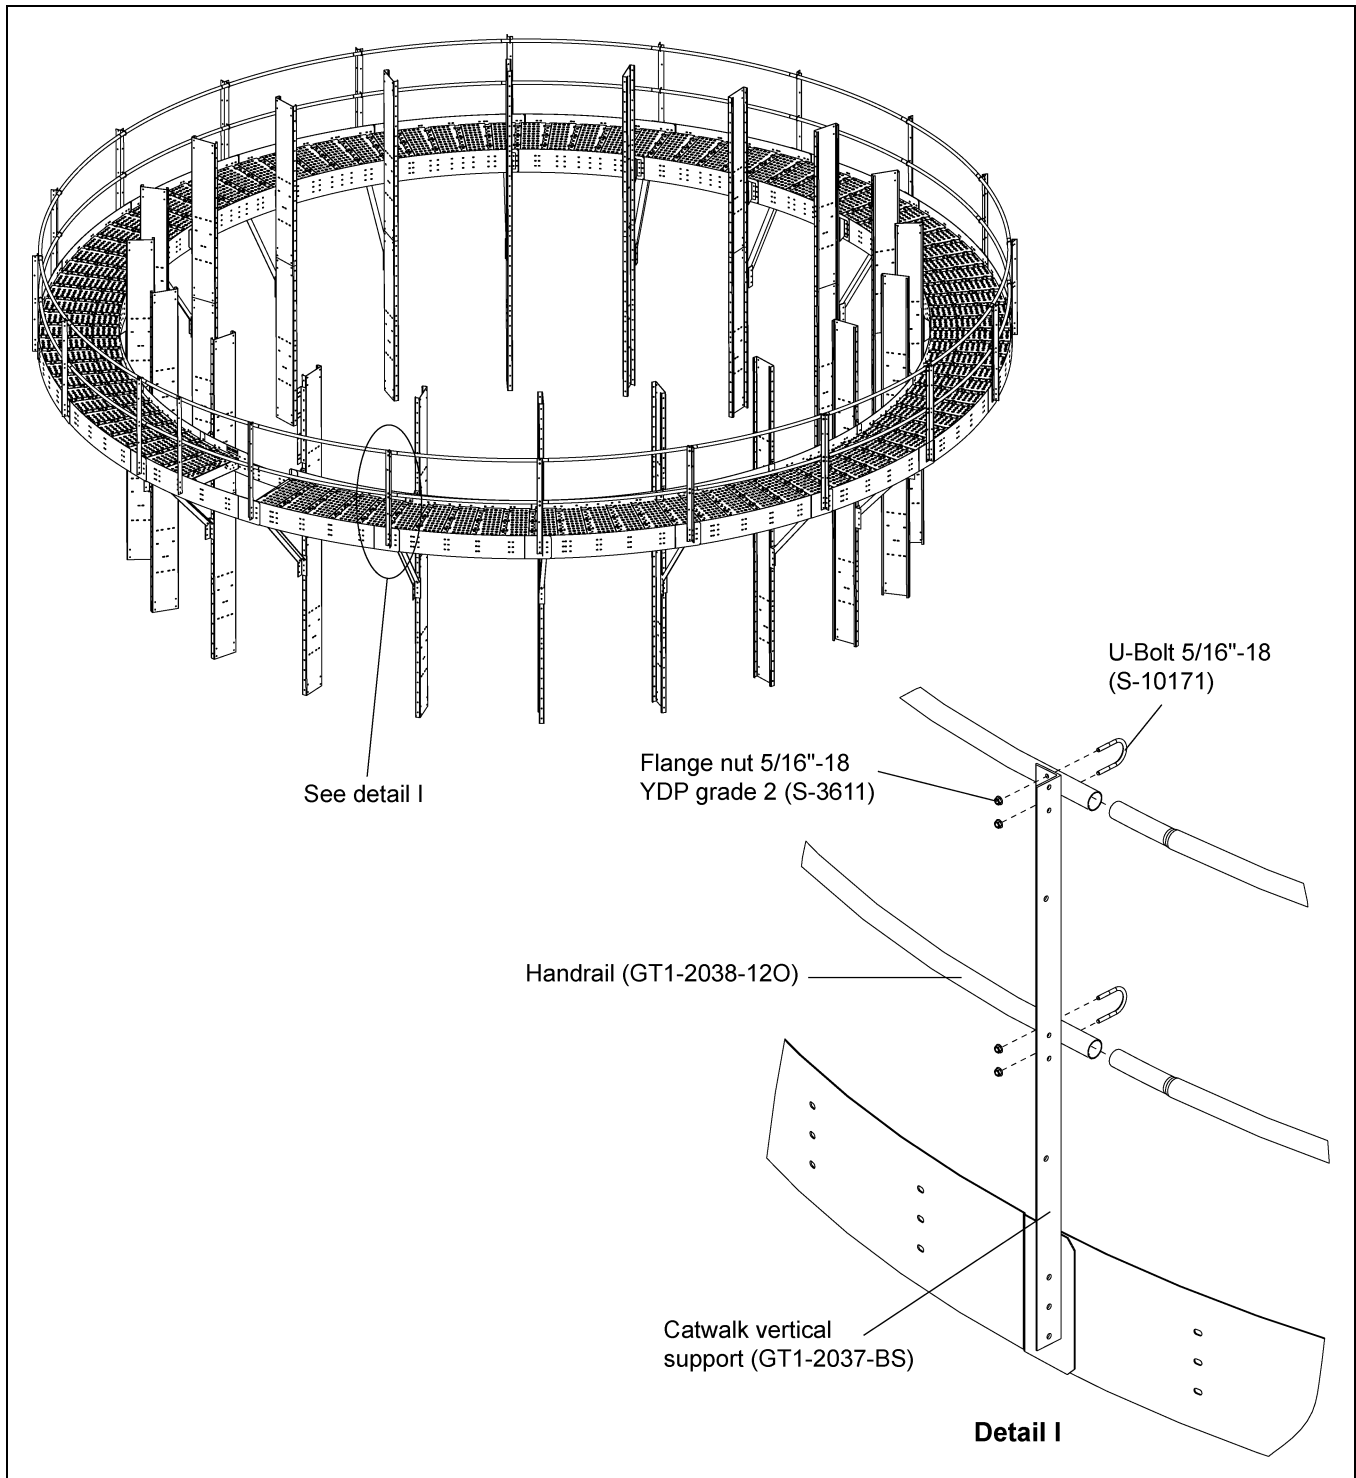

Figure 4T
1. Install the handrail (GT1-2038-300) to the catwalk vertical support (GT1-2037-BS) using 5/16"-18 ZN U-bolts (S-10171) and 5/16"-18 YDP grade 2 nuts (S-3611) to tighten the handrail with vertical post. (See Figure 4T.) (See Page 22.)